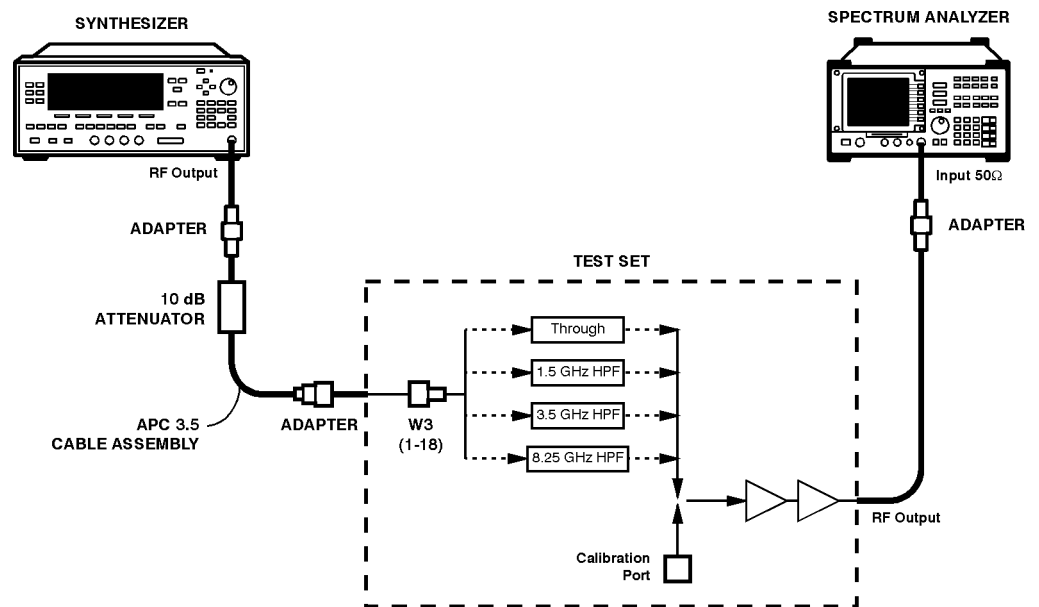

Figure 3-6. System Gain Verification
The test set output cable is connected to the input of the EMC analyzer replacing the 10 dB attenuator and cable from the synthesizer. The correction factors for the test set (OTHER FACTORS) are activated in the analyzer. The “Other Factors” contains the calibration factors for the entire test set, excluding the antenna factors. Once the “Other Factors” are activated, the output of the synthesized sweeper is fed through the same 10 dB attenuator directly into the input of the test set. See Figure 3-6. If the system is functioning properly, the EMC analyzer display should indicate a level of approximately -45 dBm. The Marker Delta function of the EMC analyzer is activated to determine the error difference between the -45 dBm calibration signal and the displayed level on the EMC analyzer. The Marker Delta amplitude is recorded in Table 3-4.
14. Connect the RF cable assembly from the test set to the EMC analyzer INPUT 50Ω using the 3.5 mm (f) to (f) RF adapter supplied with the EMC analyzer. Refer to Figure 3-6. Torque the connector to 8 inch lbs.
16. Connect the synthesizer/level generator cable with a 10 dB attenuator to the input of the test set. Refer to Figure 3-6.